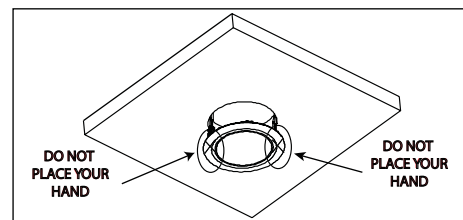

Figure 8 / Figura 8 / Schéma 8
- DO NOT PLACE YOUR HAND UNDERNEATH SPRING CLIP DURING REMOVAL PROCESS. SNAPPING OF THE CLIPS CAN CAUSE INJURIES TO THE HAND. (Figure 8)